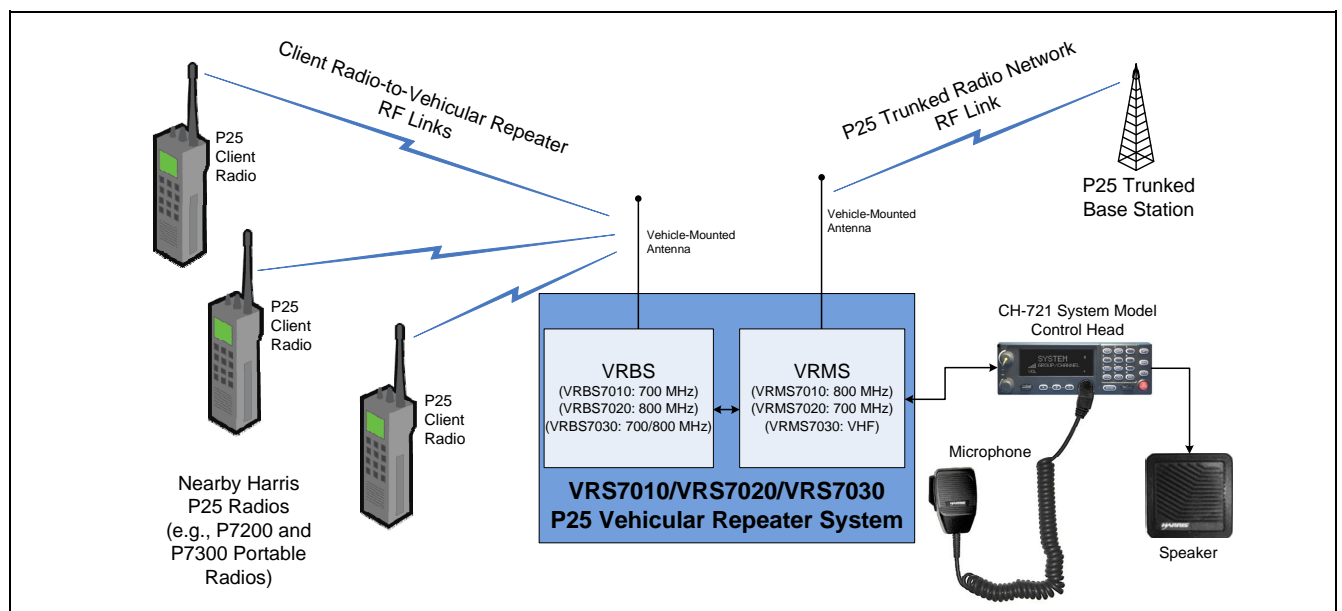

Figure 2-1: Simplified Block Diagram of Extended Coverage (XCOV) Vehicular Repeater Mode
The VRS7000 series of Project 25 (P25) vehicular repeaters includes the three (3) distinctly different P25 Vehicular Repeater Systems: the VRS7010, the VRS7020, and the VRS7030. Unless otherwise stated, operating procedures presented in this manual apply to all three (3) repeaters. Each repeater has different radio frequency bands upon which it operates on. These bands are included in Figure 2-1 on page 15.
The VRS7000 consists of two (2) mobile radio systems coupled together with specialized interface hardware. As illustrated in Figure 2-1, its Vehicular Repeater Mobile System (VRMS) provides the radio frequency (RF) link to the radio network, and the Vehicular Repeater Base System (VRBS) provides the RF link for nearby P25 radios. A control head, microphone speaker, and two (2) antennas complete the radio installation.
When the VRS7000 is operating in the extended coverage vehicular repeater mode, it provides the network extension that enables nearby P25 radios operating on a vehicular repeater radio frequency channel to access a P25 trunked radio network. This mode of operation is sometimes abbreviated "vehicular repeater mode" or simply "XCOV mode." As illustrated in Figure 2-1, portable radio coverage is extended due to the VRS7000's high-performance mobile antenna system and higher transmitter output power used to access the P25 trunked radio network. The VRS7000 can significantly enhance in-building penetration for P25 trunked portable radios that can operate on the same radio frequency band as the vehicular repeater. Typical operational scenarios include in-building tactical operations and joint training exercises.